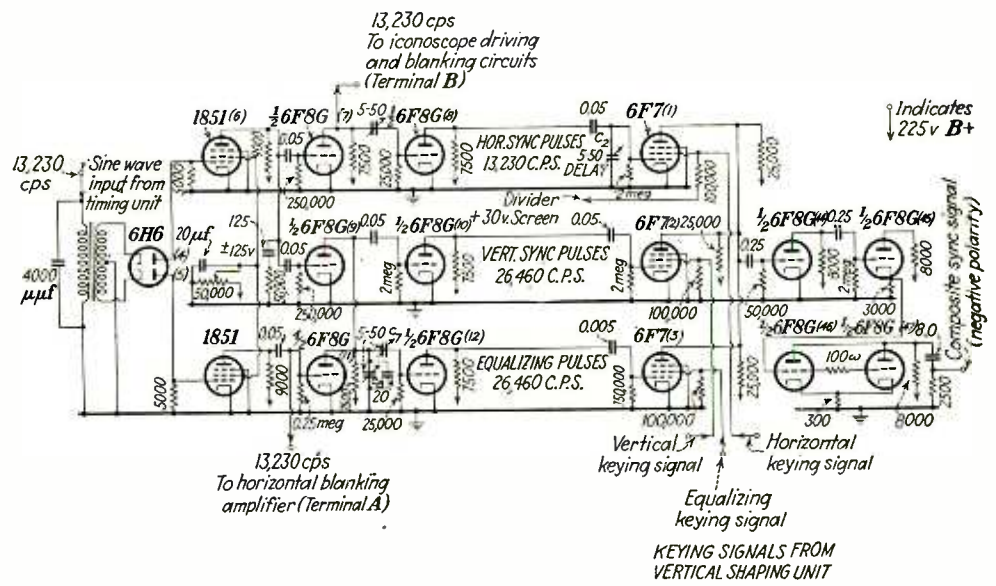

Fig. 4—Horizontal section of the shaping unit. Under the control of the timing unit, the composite synchronizing signal is assembled by means of keying signals
Referring to the diagram of Fig. 4 the 13,230 cps input is applied to the cathodes of the two diodes 4 and 5 in phase opposition through the transformer (a Western Electric 77A repeat coil is satisfactory). The outputs must be symmetrical and the transformer of high quality. The resulting waves are clipped in the grids of the two following pentodes and the width adjusted by the 50,000-ohm potentiometer. These pulses have a duration of slightly less than one half period. One chain of tubes 6, 7, and 8 shapes and narrows the pulse to the desired width before applying it to the grid of the first keying pentode (1). This tube will pass these pulses unless its screen is keyed negative, that is, unless either equalizing pulses or vertical pulses are being inserted.